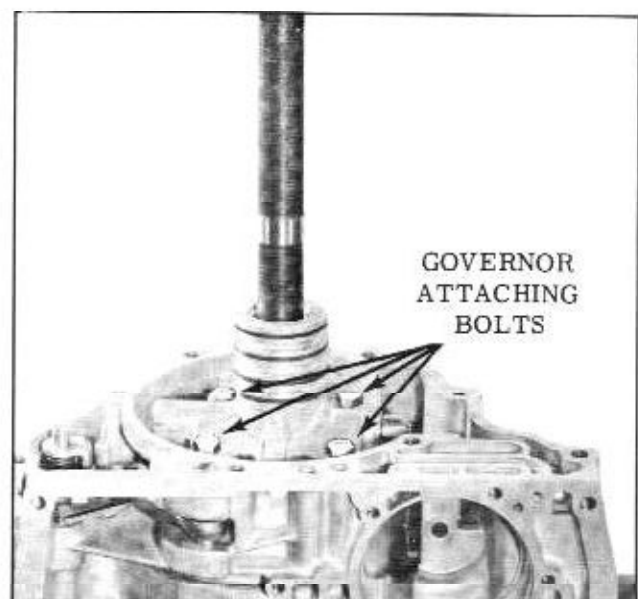

Figure 3-36 Governor Removal
9. Remove the 4 governor attaching bolts, governor assembly and gasket from output shaft. (Fig. 3-36)